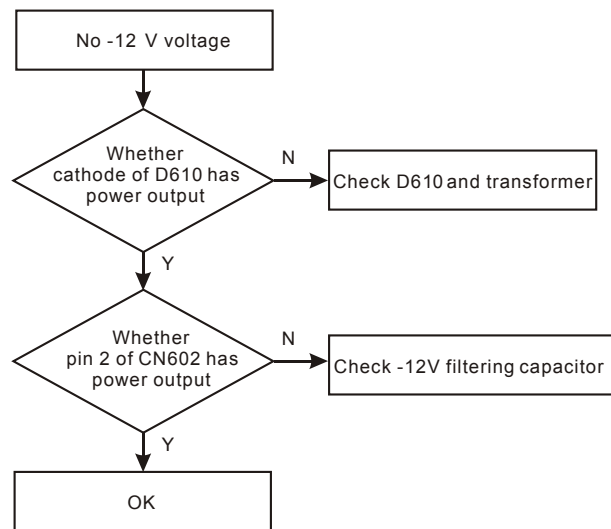

Figure 3.3.2.9 Troubleshooting process for “No -12V voltage”
10. Troubleshooting process for “No voltage output (power board OKI -P00807A)” is shown in the following figure 3.3.2.10: